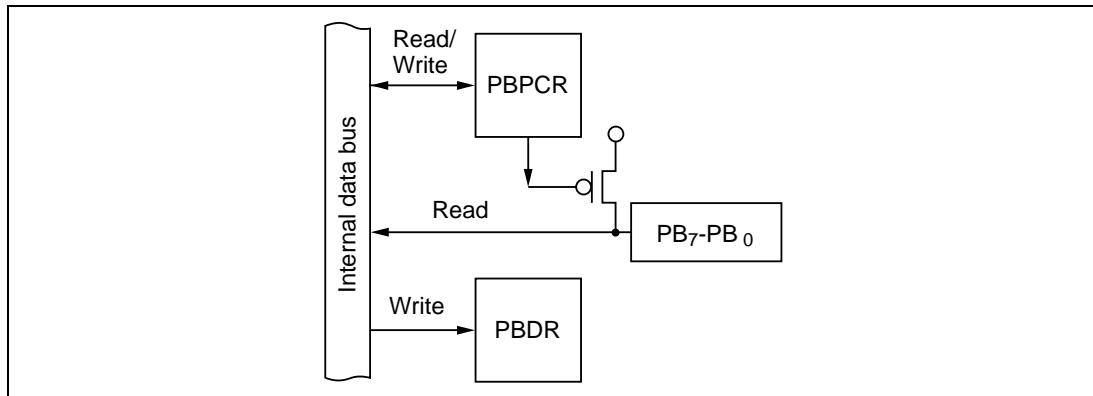

Figure 10-79 Input Port with Built-In Pull-Up Transistors (Mode 7)
(2) Input Port with Internal Pull-Up (Mode 7): Figure 10-79 shows a block diagram illustrating the general-purpose input function and built-in input pull-up transistors. Table 10-59 indicates register read/write data. Values written in the port B data register (PBDR) have no effect on general-purpose input lines. When read, PBDR returns the value at the pin. When a bit in the port B pull-up transistor control register (PBPCR) is set to 1, the corresponding PBDR bit always reads 1.